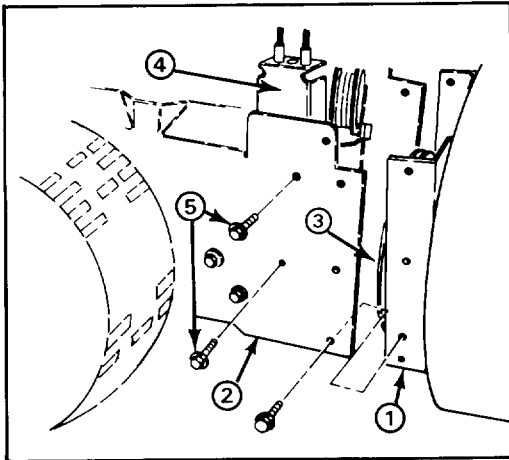

Figure 1
1. Remove (2) flange head capscrews securing idler pulley assembly to engine frame. Remove idler pulley assembly.
2. Align auger housing and engine frame mounting holes (Fig. 1).